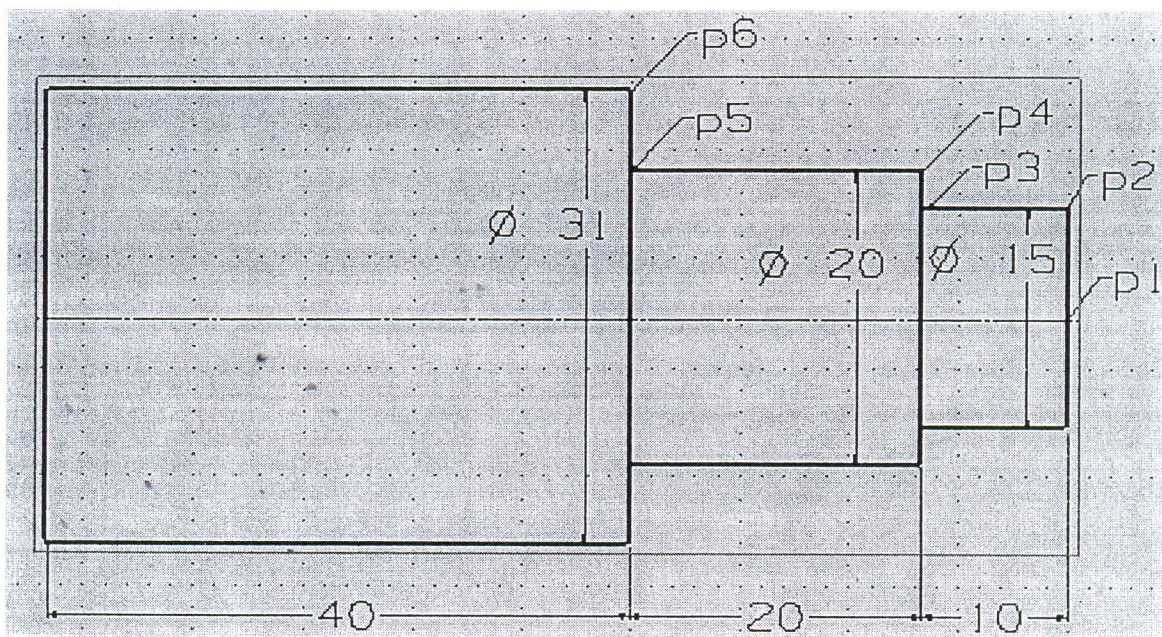

Figure 1
- b) Make a coordinate using Incremental System by using *Figure 1*.